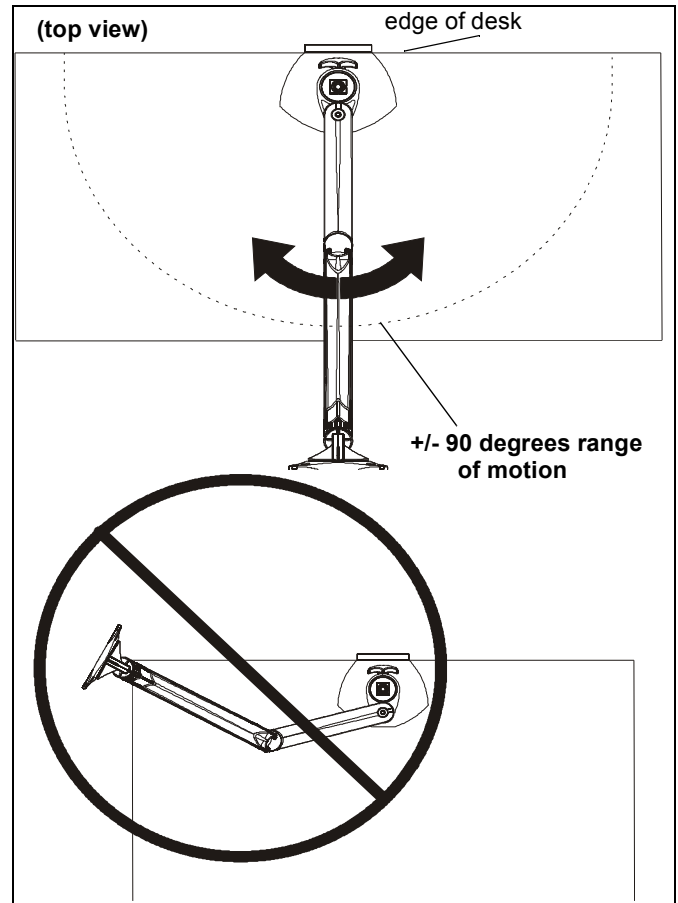

Figure 7
1. Adjust arm angle as desired up to 90 degrees in either direction. (See Figure 7)